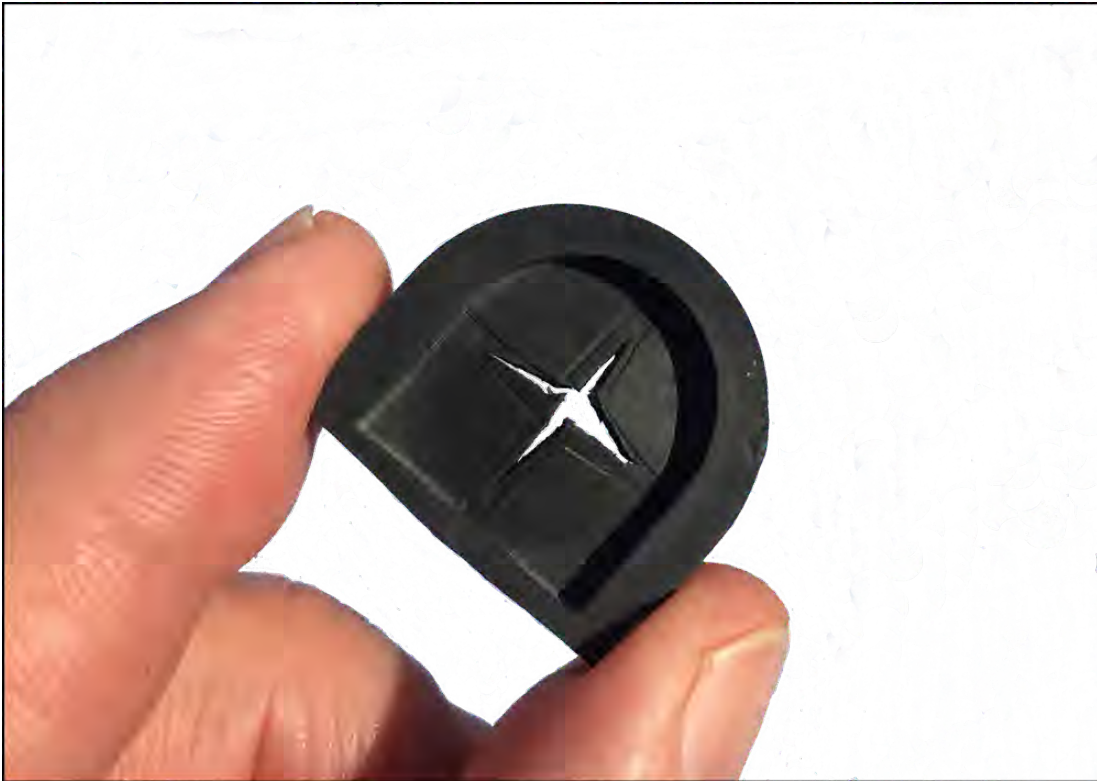

Figure 14: Rubber gasket
4. With a sharp tool such as an X-Acto knife, create a small “X” pattern in the gasket (see Figure 14).